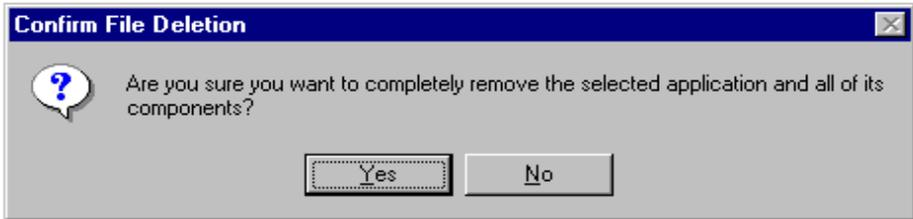

Figure 4-13: Confirm File Deletion Window
5. A *Confirm File Deletion* window will appear (see Figure 4-13), asking if you are sure you want to remove the program. Click *Yes*.